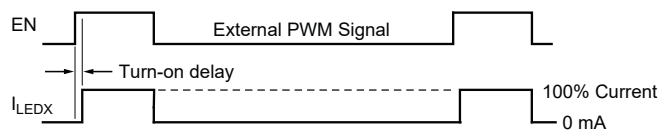

Figure 2. Timing diagram of external PWM signal and LED current
- PWM dimming using the EN pin. PWM dimming is performed by applying an external PWM signal on the EN pin. When the EN pin is pulled high, the A8511 turns on and all enabled LEDs sink 100% current. The sequence is shown in figure 2. For optimal accuracy, the external PWM signal should be in the range 100 to 300 Hz. The slight delay between PWM signal and the LED current causes an error. To compensate for the error, a small turn-on delay should be added to the PWM signal as shown on page 10 of the Performance Characteristics section. When EN is pulled low, the boost converter and LED sinks are turned off. The compensation (COMP) pin is floated, and critical internal circuits are kept active. If EN is pulled low for more than t_{PWML}, the device enters shutdown mode and clears all internal fault registers. As an example, for a 2 MHz clock, the maximum PWM low period while avoiding shutdown is 65 ms.